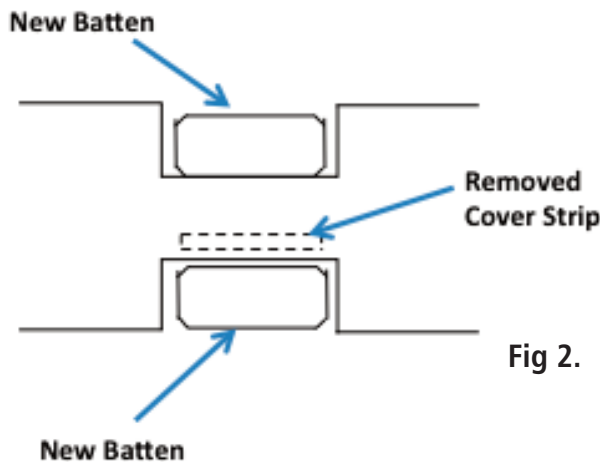

Fig 2.
- 3) Remove one cover strip from the side to be cut. Lay down one batten into one notch and 2nd batten and removed cover strip to 2nd notch. Remember to keep the batten on top of cover strip. (Fig 2 & 3)